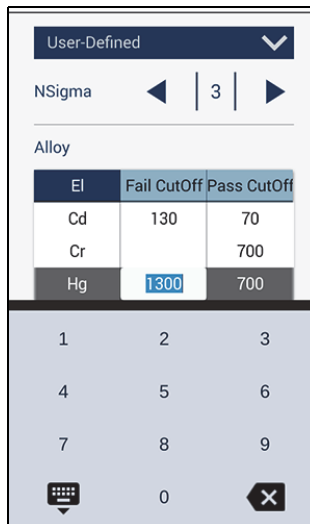

Figure 2-86 Defining cutoff value
1. Double-tap a **Fail Cutoff** or **Pass Cutoff** box to highlight the value and display the keypad (see Figure 2-86 on page 98).